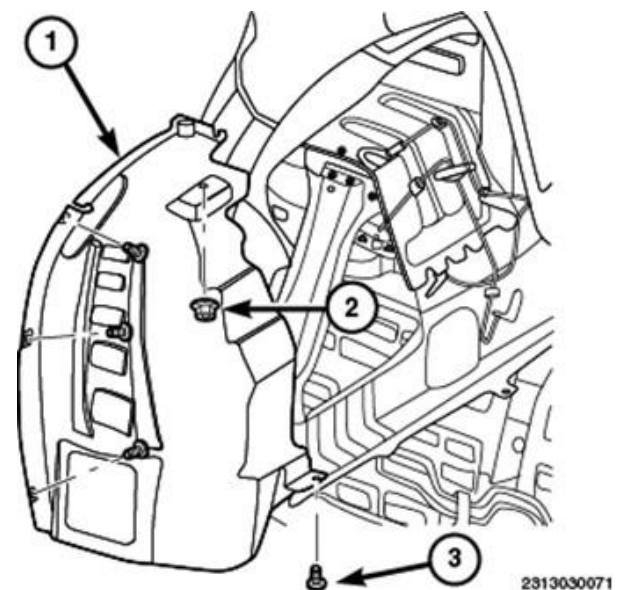

**Figure 6 – Wheelhouse Splash Shield**
11. Remove the fasteners (3) and (2) securing the left front wheelhouse splash shield (Figure 6).
12. Remove the left front wheelhouse splash shield (1) (Figure 6).